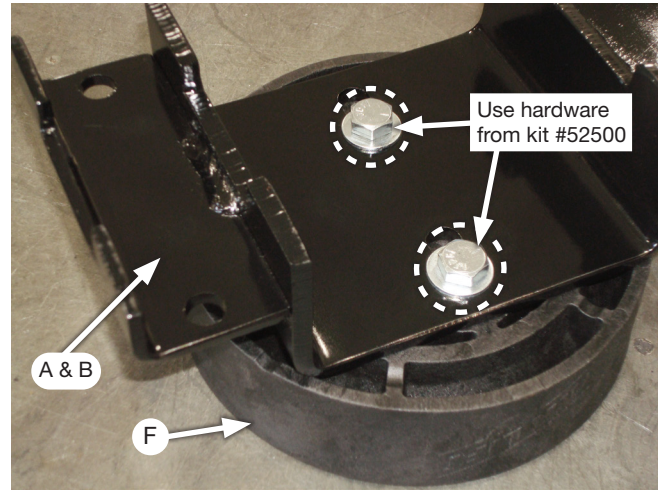

Fig. 13
- Using the hardware in the universal cradle kit (52500), insert the 3/8" hex cap screws through the 3/8" flat washers, the lower brackets (A & B), and through the cradles (F) (Fig. 13).